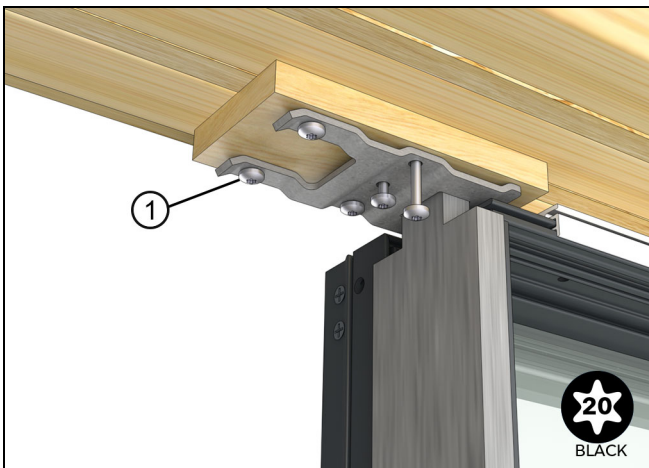

Figure 50
16. Fasten the top bracket to the RO with the 3" screws provided. See Figure 50.